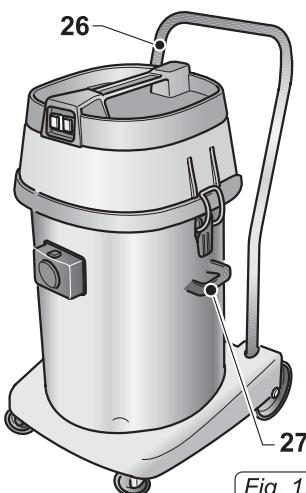
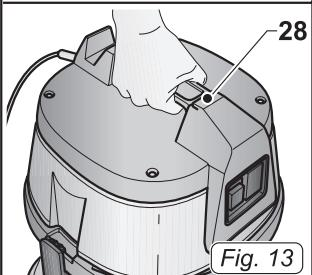

Fig. 12
Fig. 13
- The device is equipped with wheels and thus can be moved with the proper handles, or it can be pushed with the help of the handle (26 Fig. 12)
- To lift it up insert your fingers under the dedicated handle (28 Fig. 13) on the top of the cover of the single version motor or lift with the help of two people using the handles (27 Fig. 12).